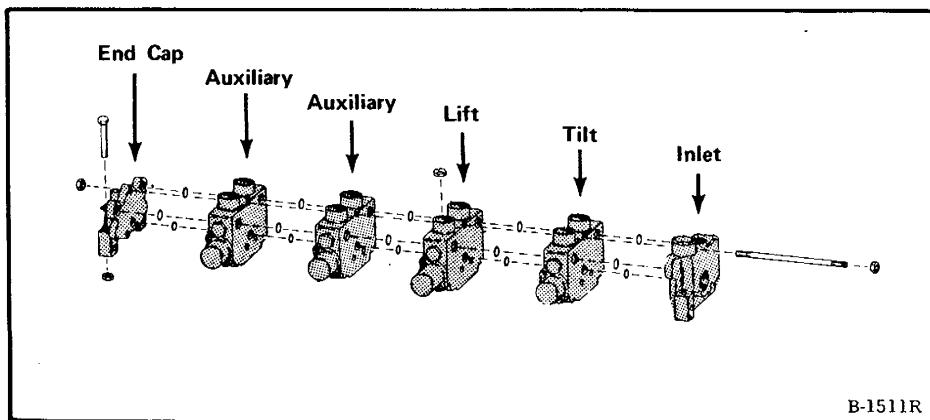

Fig. 2-25 Valve Bank Breakdown
2-11.3 To Disassemble the Control Valve (Fig. 2-25)
(1) Clean the control valve assembly thoroughly with solvent. Put it on a clean surface for disassembly.
(2) Put a mark on each valve section (1, 2, 3, 4, etc.) to identify them for assembly.
(3) Remove the nuts from the three thru bolts which hold the valve sections together (Fig. 2-25).
(4) Remove each section by sliding it off the thru bolts. Use a soft hammer, if necessary, to break the seal between sections. Remove the O-rings. Clean the machined surface of each section.
(5) If a valve section is to be disassembled, put it in a vise. Be careful not to clamp the machined surface in the vise.